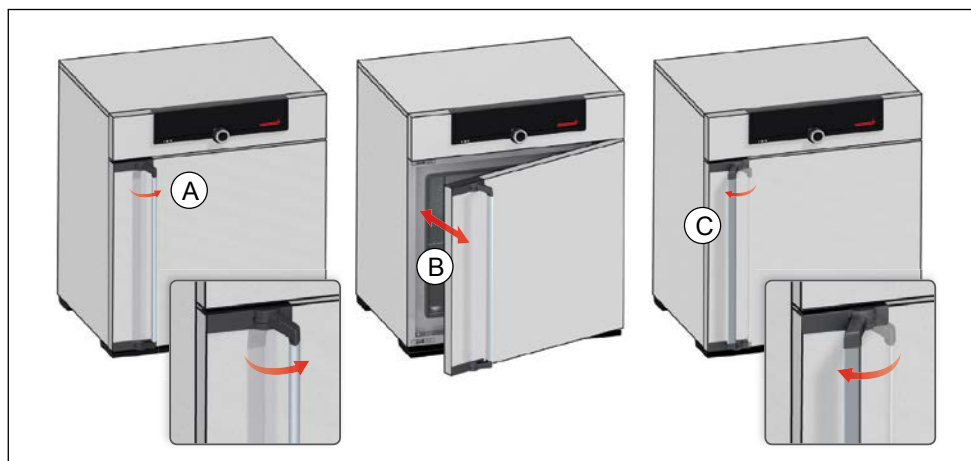

Fig. 12 Opening and closing the door
- ▶ To open the door, pull the handle bar to the side (to the left or to the right, depending on the door variation, see Fig. 12, A). The door opens slightly, so that the heat can be vented with the door ajar in case of high temperature inside the chamber. The door can then be opened completely (B).
- ▶ To close the appliance, push the door closed and the door handle to the side (C).